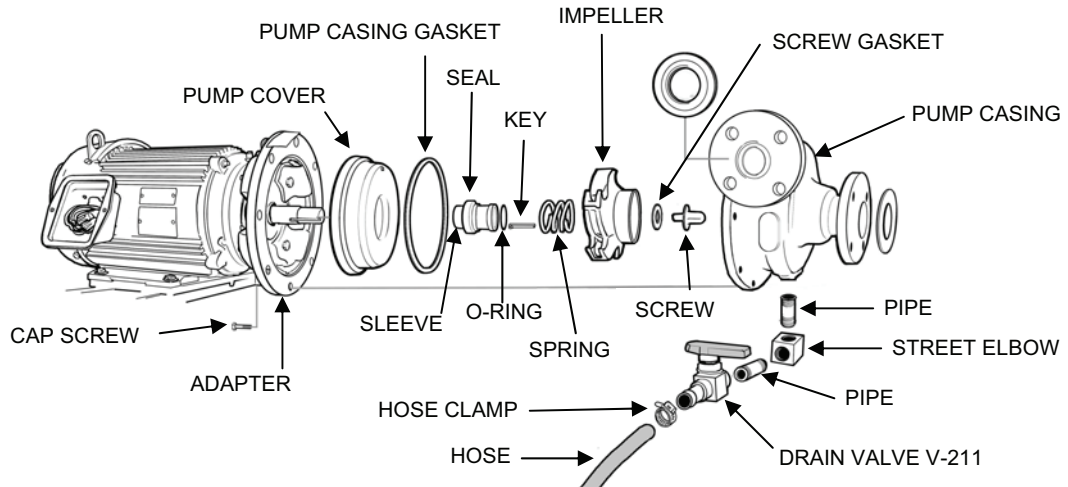

Figure 20. RO Feed Pump Removal.
3. Remove the pump from the adapter as follows (see Figure 20):